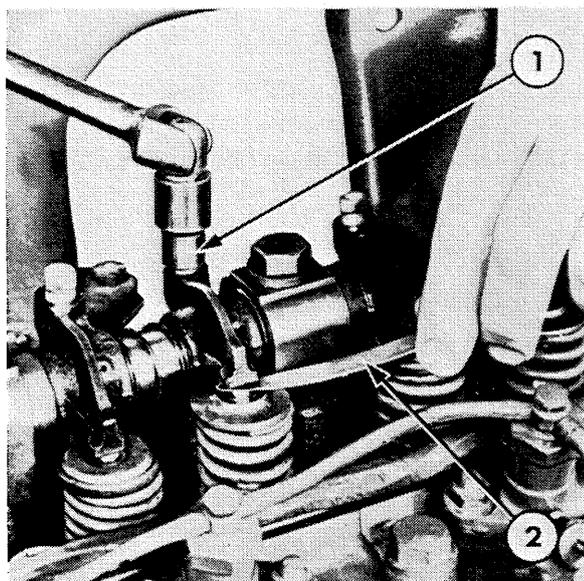

Figure 18
- Rotate the engine and set the valve lash. Figure 18. See "Specifications"—Chapter 4.